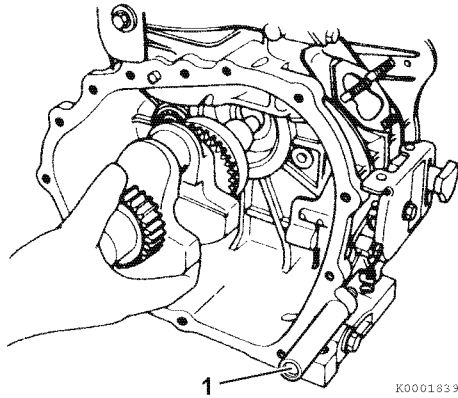

Figure 6-49
17. Remove the crankshaft from the open end of the crankcase. It will be necessary to use a heavy soft-faced hammer to drive the crankshaft out of the crankcase and drive the large main bearing out. Reinstall the flywheel nut to protect crankshaft threads while driving crankshaft and large bearing out. Keep crankshaft aligned as it is driven out by supporting the opposite crankshaft end (**Figure 6-49**).
Do not attempt to adjust or remove the fuel limiter (1, **Figure 6-49**) assembly from the crankcase.